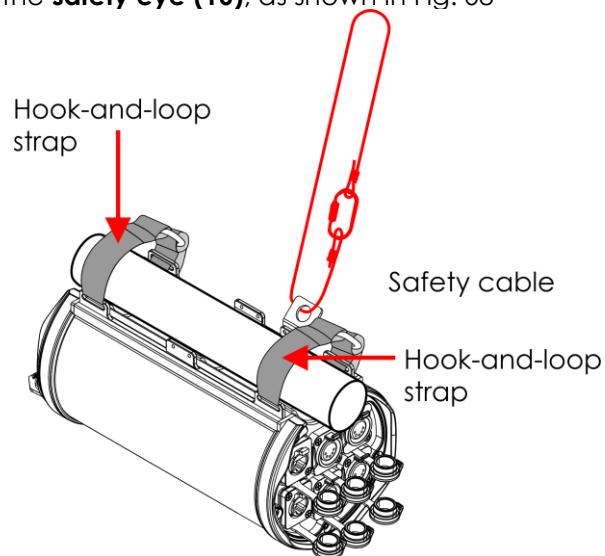

Fig. 08
- 02) Thread the hook-and-loop straps through the **strap slots (14)** to attach the device to the supporting structure, as shown in Fig. 08. Make sure that the device cannot move freely.
- 03) Secure the device with a secondary suspension, for example a safety cable. Make sure that the secondary suspension can hold 10 times the weight of the device. If possible, the secondary suspension should be attached to a supporting structure independent of the primary suspension. Put the safety cable through the **safety eye (16)**, as shown in Fig. 08